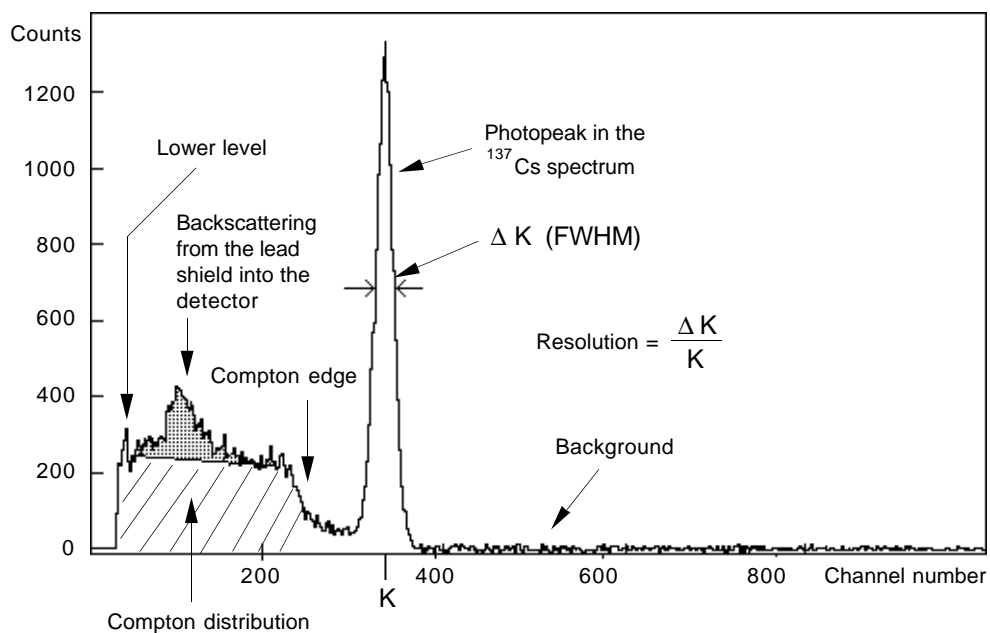

Figure 6.
Figure 9 shows the pulse height distribution or spectrum of a scintillation detector that is exposed to gamma radiation of one single energy (monochromatic radiation). A large fraction of the incoming gamma quanta deposit all their energy in the crystal by photoelectric effect or multiple scattering, which gives rise to the peak ('photopeak') in the spectrum. The peak has a certain width, due to the statistical response of mainly the PM tube. The width of the peak depends on the energy of the radiation, and is typically between 5 and 10 % of the channel number which represents the center of the peak. This measure is called the resolution of the detector, and is obtained by dividing the width of the peak (in channels or MeV) at half of the peak height with the channel number of the peak or its energy. For the 0.66 MeV peak in the spectrum of Cesium the resolution is typically about 7 % (see figure 6).
- 2) The incoming gamma quantum first collides with an electron in the surrounding lead shield, scatters and loses part of its energy before finally being detected in the NaI crystal (gives up its remaining energy). This process gives rise to the shadowed region in figure 6.